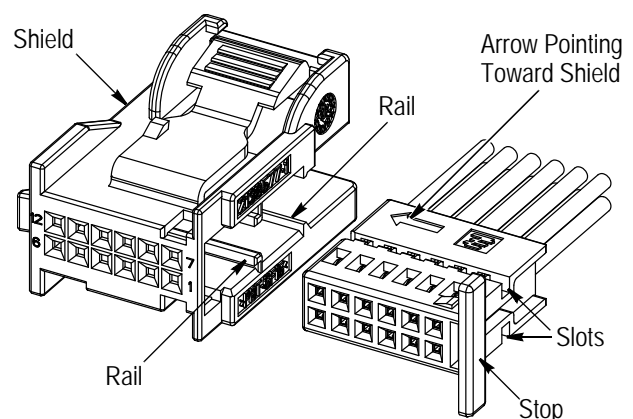

Figure 3
1. Align the slots of the housing with the rails of the shield, making sure that the arrow of the housing points toward the shield. The arrow of the housing indicates the direction of insertion. See Figure 3.